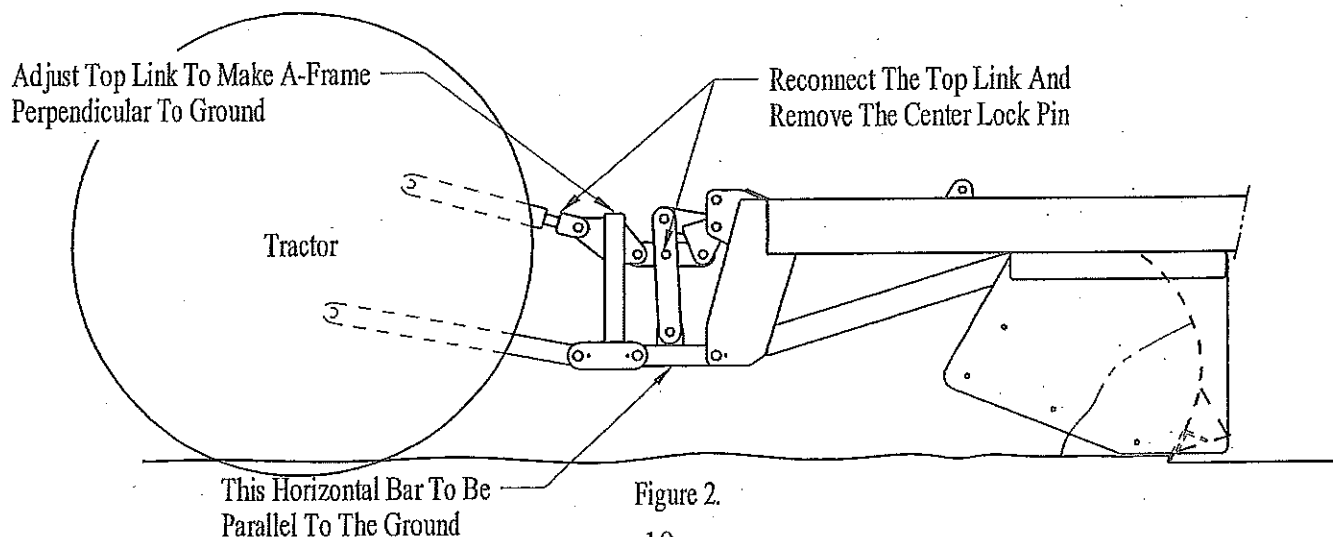

Figure 2.
- After the blade height has been set, adjust the tractor 3-point so the horizontal lift bar on the land plane is parallel to the ground. This is required to obtain the maximum compensation (travel) in leveling. Whenever the working height of the blade is changed, the center link should be readjusted to keep the lift bar parallel to the ground (Figure 2).